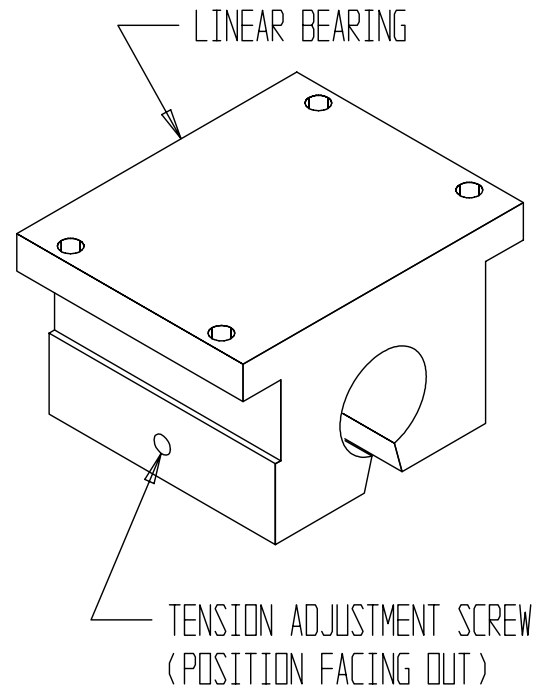

FIG. 44
STEP 2--Insert a new linear bearing onto the end of the carriage shaft with the tension adjustment screw pointing outward. See FIG. 44.